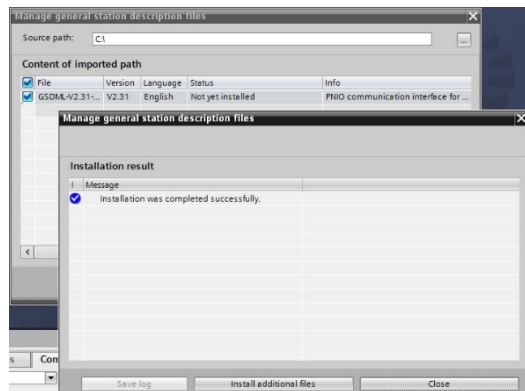

Figure 79: Successfully Installed GSDML File
2. Locate and select the GSDML file and click the **Install** button. Confirm that the installation was completed successfully as shown in Figure 79 and click the